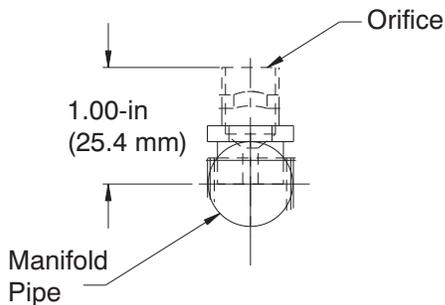

Fig. 32 - Orifice Projection
Orifice projection — Refer to Fig. 32 for maximum projection dimension for orifice face to manifold tube.
5. If factory orifice has been removed, check that each orifice is tight at its threads into the manifold pipe and that orifice projection does not exceed maximum valve. See Fig. 32
10. Turn off unit, remove pressure manometer and replace the 1/8 in. pipe fitting on the gas manifold. (See Fig. 32.)
Check that each replacement orifice is tight at its threads into the manifold pipe and that orifice projection does not exceed maximum value. See Fig. 32.